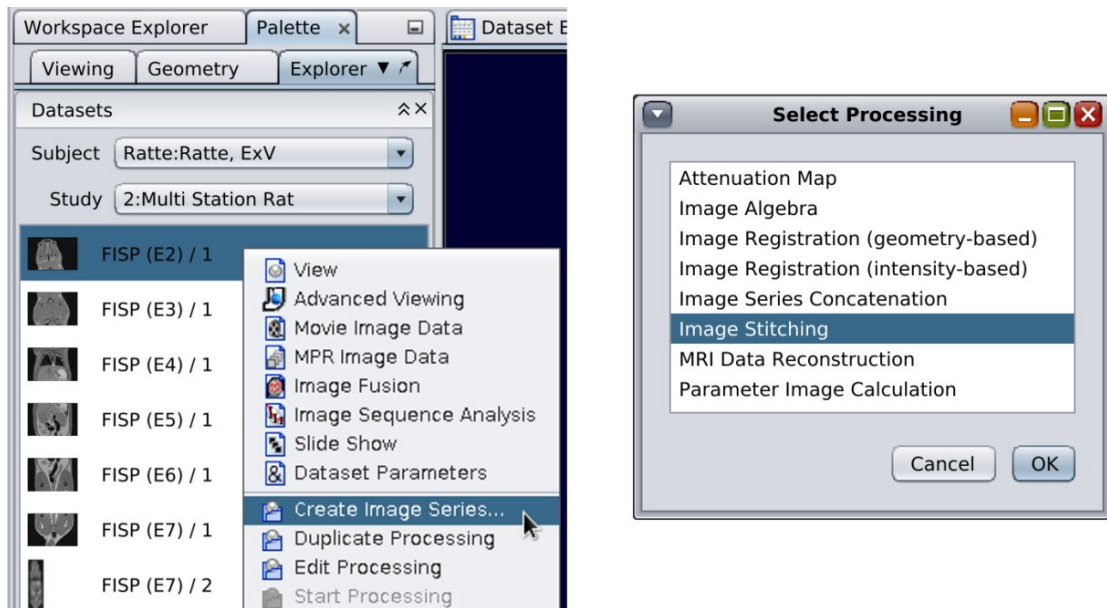

Figure 1.412: Creating an image stitching processing
2. Right-click one of the source image series, select **Create Image Series...** (see Figure 1.412 [p 459]).